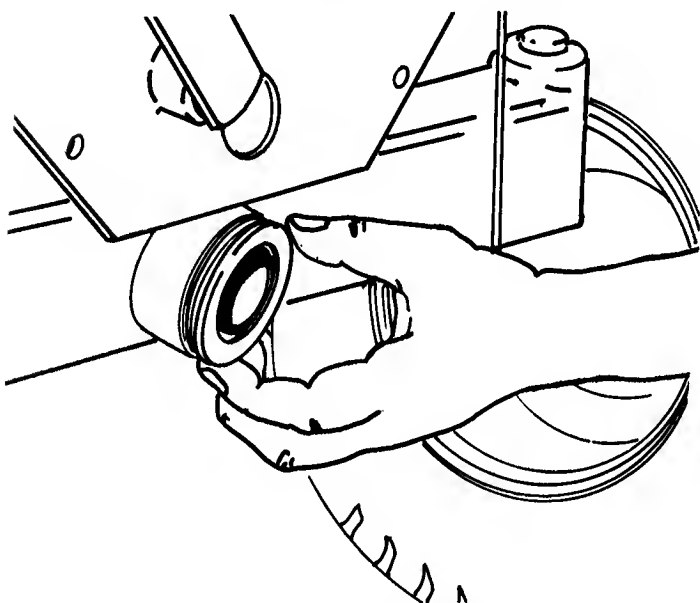

FIG. 2.26 — THRUST WASHER & PIVOT TUBE
8. Continue raising tractor and remove axle, thrust washers and pivot tube. Fig. 2.26.
2. Lower tractor over axle pivot tube and thrust washers as shown in Fig. 2.26.